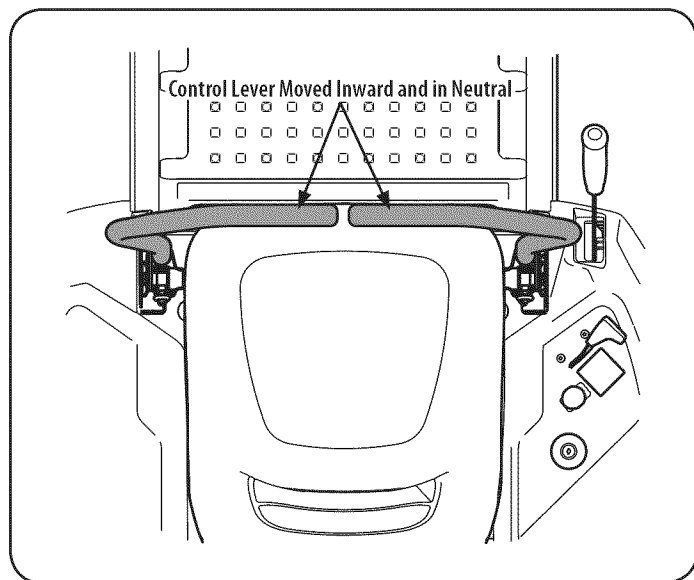

Figure 9
2. Move the RH and LH drive control levers inward in the neutral position. Refer to Figure 9.